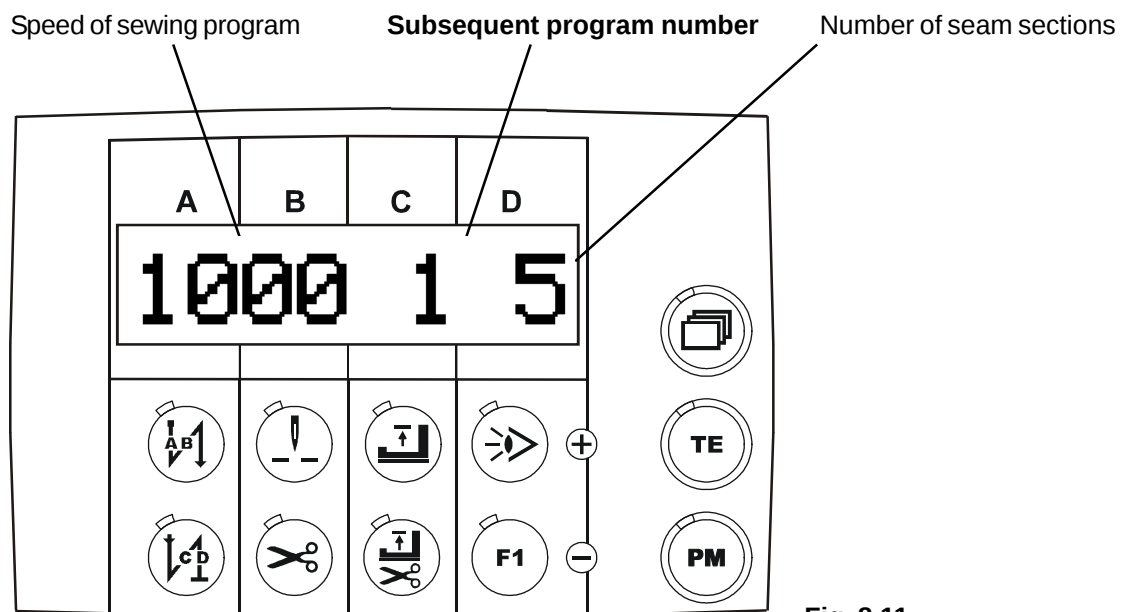

Fig. 8.11
7.6 Press the **paging key** until the display **Fig. 8.11** appears
- Using the **D+ / D-** keys set **parameter <313>** to **value 1** (Fig. 8.11)